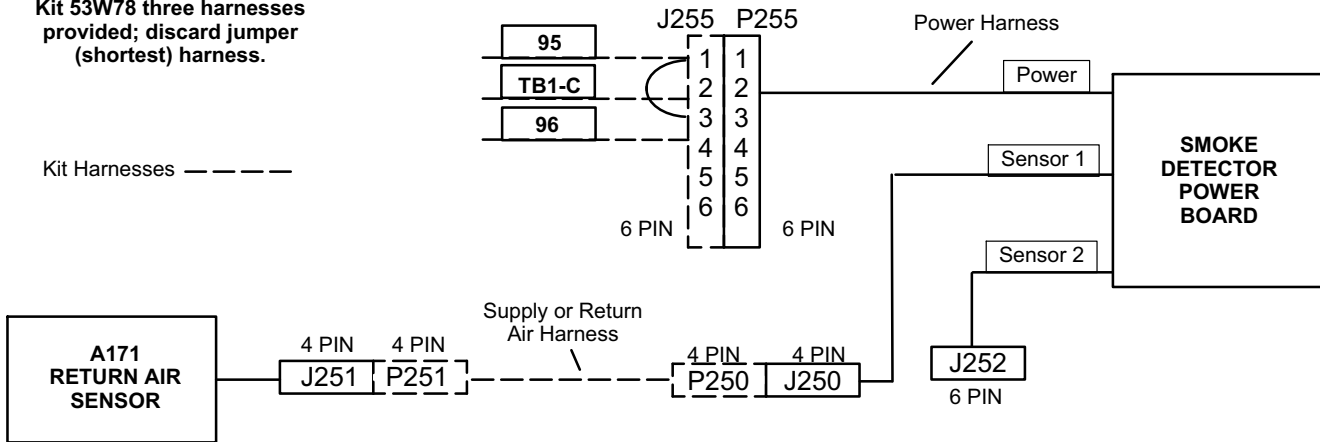
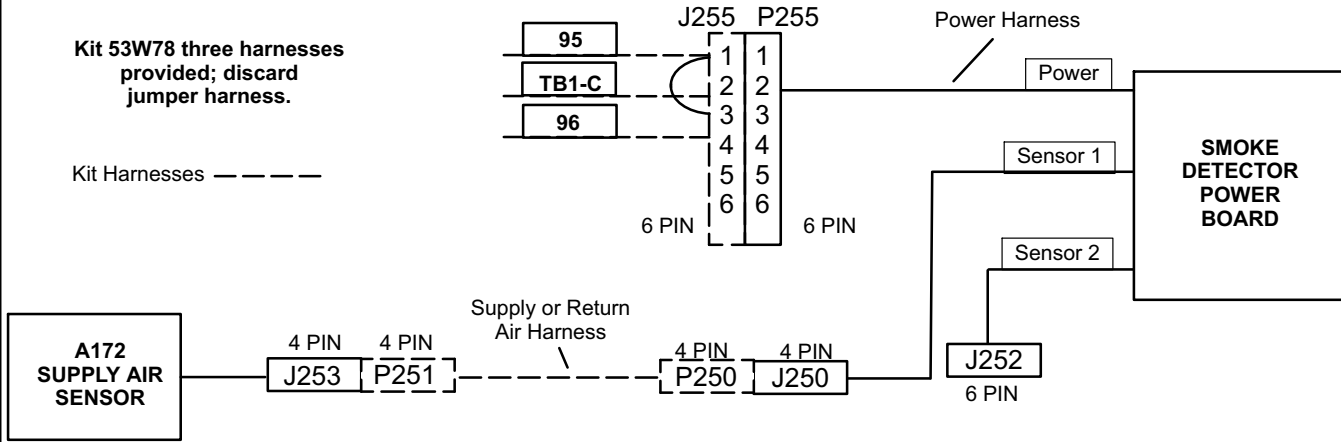

FIGURE 9
FIGURE 10
- 4 - Make jack/plug connections as shown in figure 9 when installing return air smoke detector only, figure 10 when installing supply air smoke detector only, and figure 11 when installing both supply and return air smoke detectors. Refer to respective wiring diagrams in figure 12, 13 and 14.